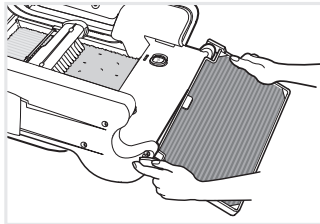

Fig. 5
- The paw-cleaning ramp has two holes that snap into the pivot pins on the inside of waste receptacle compartment cover. Position paw-cleaning ramp with carpet-side facing up. Point pivot pins toward the disposable waste receptacle end of unit. Lift paw-cleaning ramp and insert one of the pivot pins into one of the holes. Slightly stretch the other pivot pin to reach other hole, then insert (Fig. 5). Tug slightly on ramp to ensure that it is firmly in place.